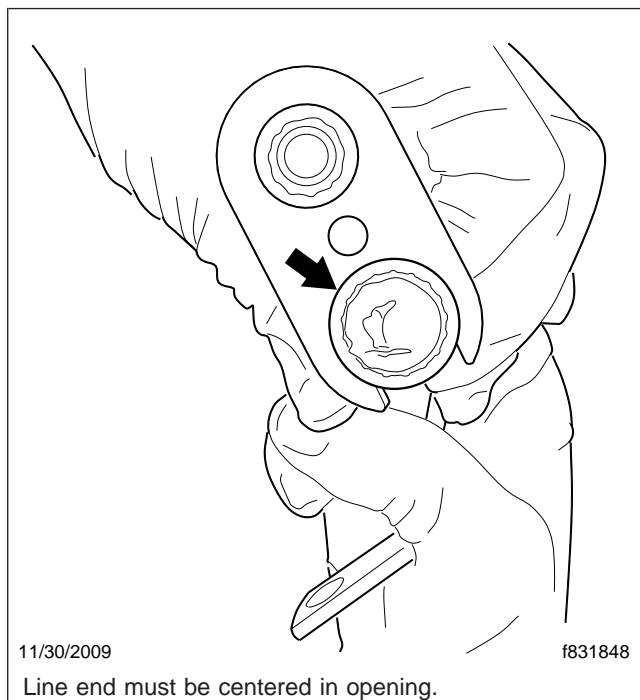

Fig. 2, Checking the Fit
3. Check the fit of the H01 line in the retaining plate on the H04 line. See Fig. 2. If it fits properly, no modification is needed. If it does not fit, modify the retaining plate as described in "H04 Line Retaining Plate Modification" below.